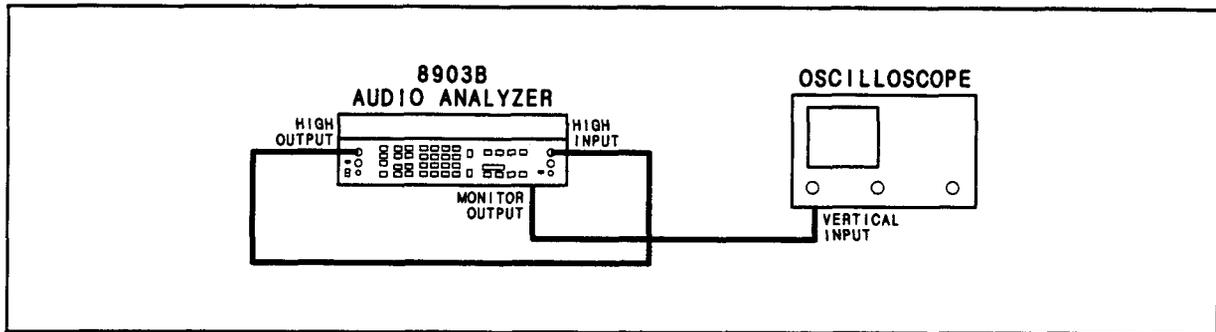

Figure 3-3. Basic Functional Checks Setup
3. Connect a BNC-to-BNC cable between the HIGH OUTPUT and the HIGH INPUT. See Figure 3-3. Set both FLOAT switches to the grounded position. Set impedance to 50Ω by keying in 47.1 then pressing the SPCL button. The SPCL key light should be lit.
4. Connect the oscilloscope to the MONITOR output on the rear panel. See Figure 3-3.